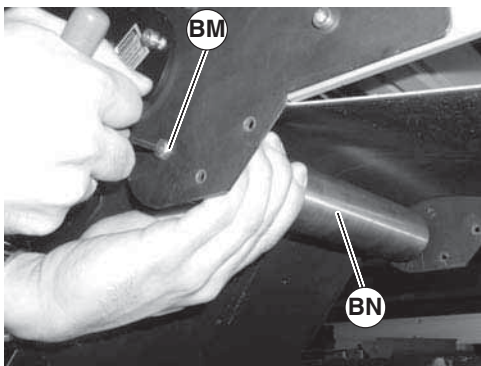

Figure 78
2. Push in hex posts (Figure 78, item BM) and remove pulley (BN).